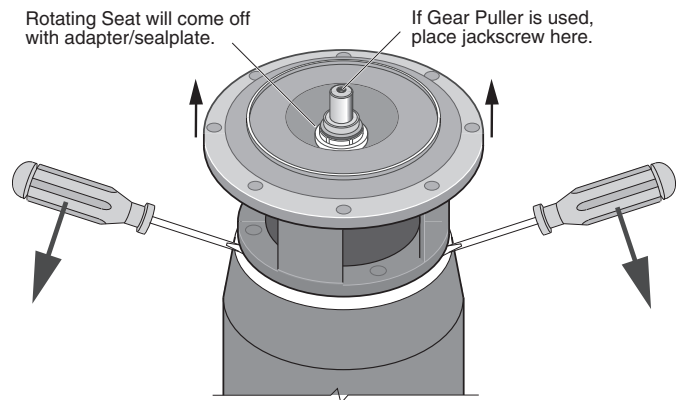

Figure 4
7. Use two screwdrivers (Figure 4) or bearing puller to carefully separate motor from adapter/seal plate, bringing rotating half of seal (Ref. No. 10) off with adapter/seal plate. Shaft sleeve (Ref. No. 2A) may come off with seal.